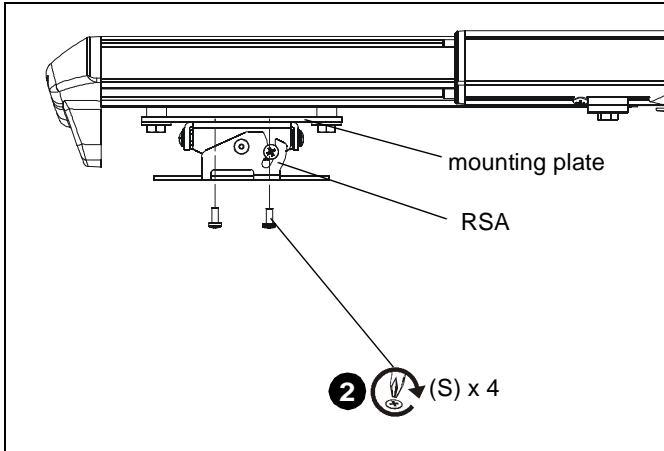

Figure 19
2. Install four #10-24 x 3/8" Phillips pan machine screws (S) through RSA holes and into projector mounting plate. (See Figure 19)